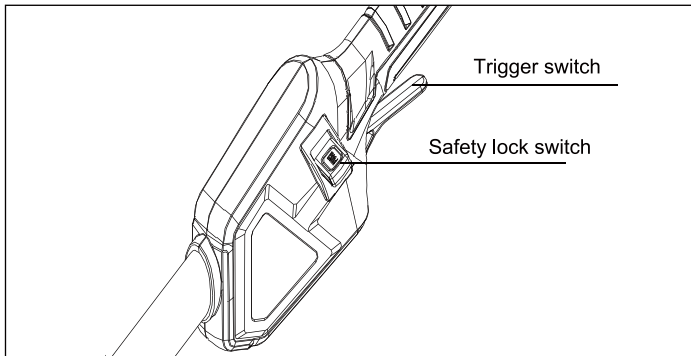

Fig. 9
2. To start the cordless snow shovel, press the safety lock switch on the side of the handle with your thumb. Then, press and hold the trigger switch with your fingers. Once the machine powers on, you can proceed with operation.(Fig.9)